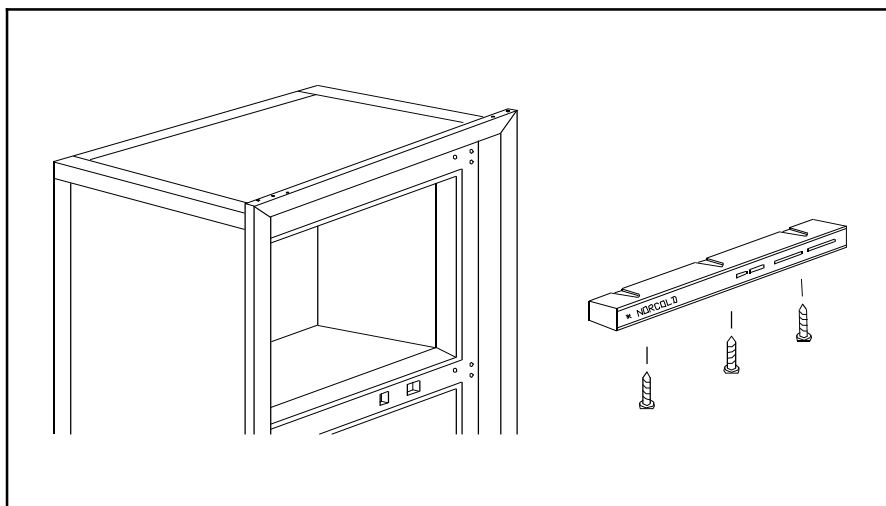

Figure 11.39 Eyebrow Removal
12. If 10 Volts is present in the preceding step, continue by removing the Eyebrow assembly from the refrigerator by removing the 3 screws as shown in Figure 11.39.